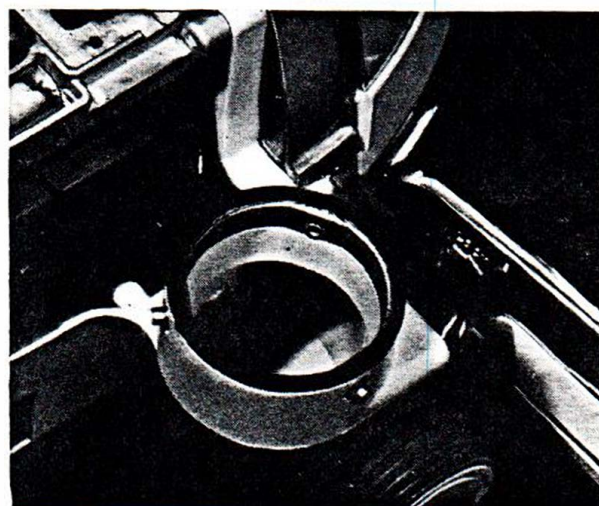

Figure 18. Exhaust Horn Gasket Removal
- A. See Figure 18. Carefully grind or drill away three special holding rivets.